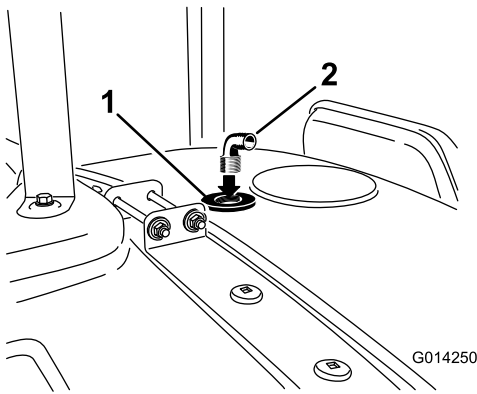

Figure 18
8. Install the 90° fitting into the threaded opening of the bulkhead fitting (Figure 18).